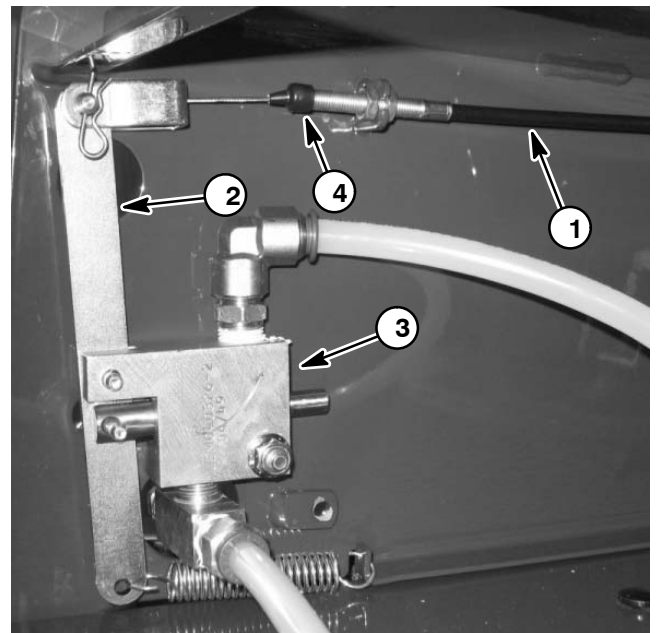

Figure 14
3. Disconnect paint control cable from paint shutoff valve (Fig. 14):
B. Remove two (2) pins that secure paint shutoff valve lever to shutoff valve. Shift position of lever to allow cable clevis removal.
3. Connect paint control cable to paint shutoff valve (Figs. 14):
- B. Position shutoff valve lever to shutoff valve and secure with two (2) cotterless pins.